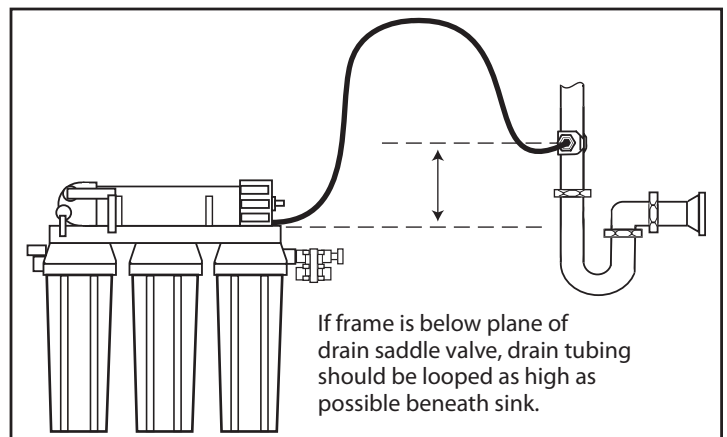

Figure 4, Drain Tubing Connection
**IMPORTANT:** If the frame of the pre-filter/RO assembly is not above the drain saddle valve, you will need to loop the tubing as high as possible beneath the sink. (See figure 4) Be sure to allow for this loop when you measure.